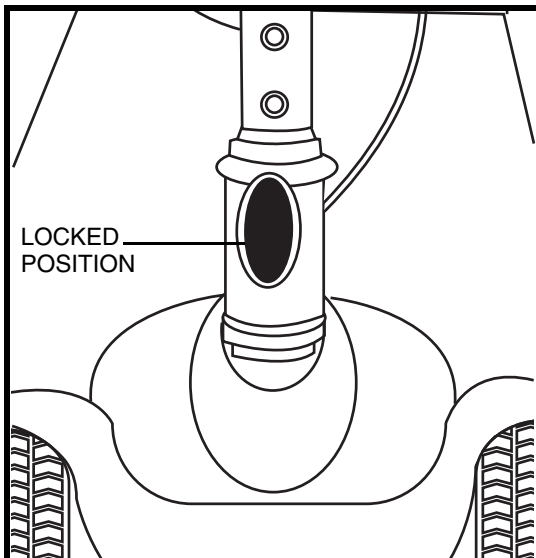

Figure 17. Tiller Lock knob (Locked)
1. Lock the tiller in the straight ahead position by pushing the tiller lock knob in and turning it clockwise 90°. See **figure 17**. The front wheel must face forward in order to lock the tiller.